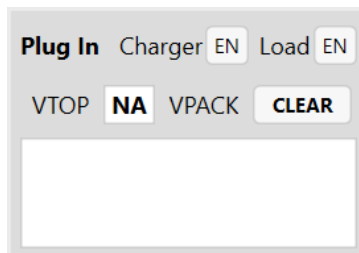

Figure 33: Plug-In Detection Control and Monitor
35. Figure 33 shows how to configure the plug-in detection control and monitor.